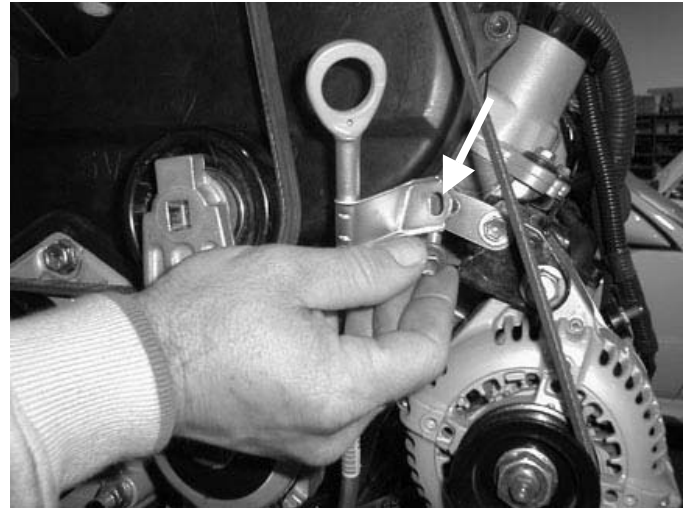

Figure 6
11. Remove the oil dipstick tube from the relocation bracket (Figure 6).